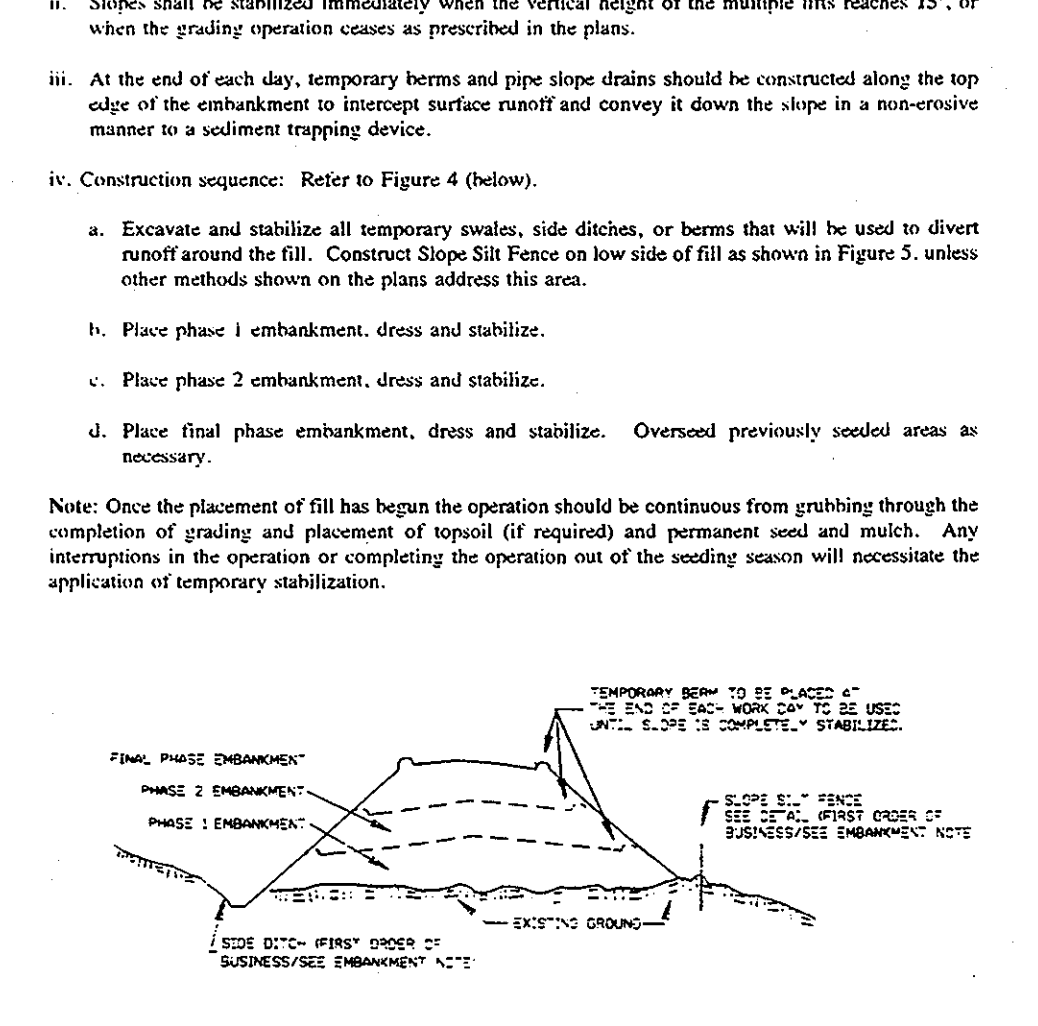

Figure 5 Incremental Stabilization - Fill
- Excavate and stabilize all temporary swales, side ditches, or berms that will be used to divert runoff around the fill. Construct Slope Silt Fence on low side of fill as shown in Figure 5, unless other methods shown on the plans address this area.